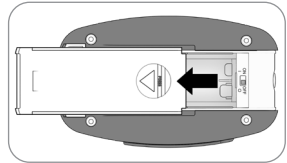

Fig. 2
2. Press down above the arrow and slide the battery compartment door (RP8645D) completely off (Fig. 2). Set battery door aside.